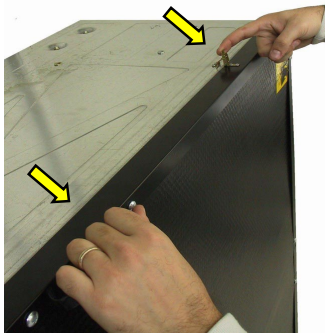

Figure 10
2. Start by fastening the two top latches. Take the panel in one hand and hold it in place. With the other hand, place the ring of the latch over the hook installed on the fan as shown in figure 10.